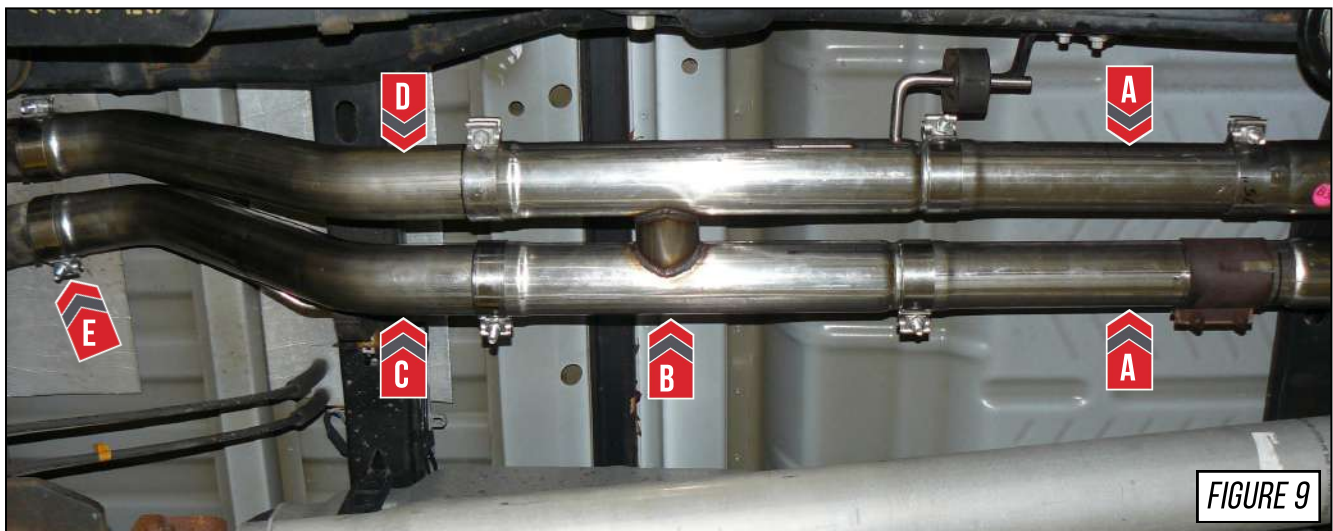

FIGURE 9
Install the adapter tubes (**parts B36**) next, reusing the factory sleeve clamp and the included 2.75" Accu-Seal Clamp, as shown by **Arrow A** in **Figure 9**.
Use the last 2.75" Accu-Seal clamps to install the H-pipe (**part B31**), shown by **Arrows B** in **Figure 4**. Install the driver side axle tube (**part B32**) using one (1) of the included 3.00" Accu-Seal clamps, as shown by **Arrow C** in **Figure 9**.
Install the passenger side axle tube (**part B33**) using one (1) of the included 3.00" Accu-Seal clamps, as shown by **Arrow D** in **Figure 9**.
Reinstall the factory tailpipes using the remainder of the included 3.00" Accu-Seal clamps, as shown by **Arrows E** in **Figure 9**.